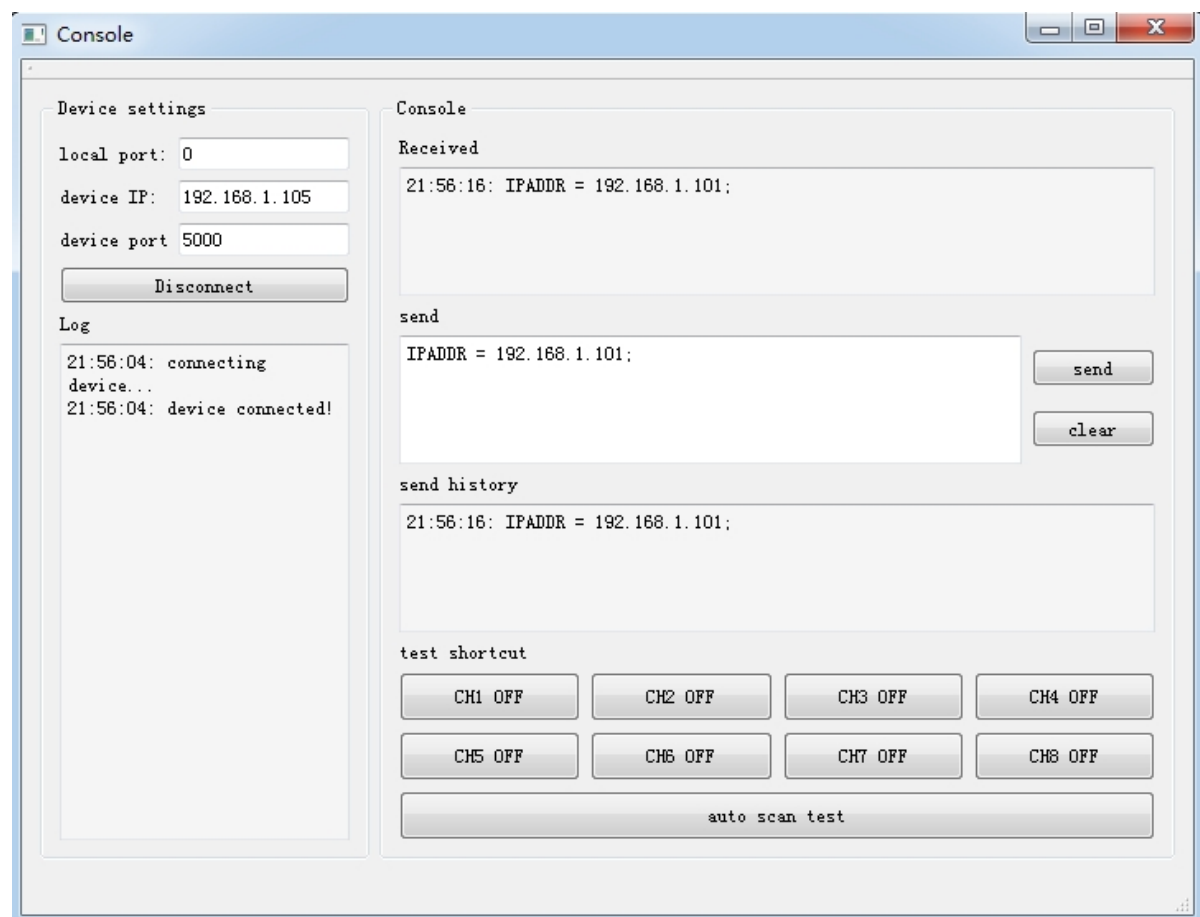

Fig.1.3
3. Click "**Connect**" button, and wait for module connected. Then, it is able control the relay module. To change module IP address, at **Send** area enter "**IPADDR = 192.168.1.101;**" and then click **Send**, a feedback will show up at **Received**: "**IPADDR=192.168.1.101;**", this means the relay module has received your message and executed it correctly. See **Fig.1.3**